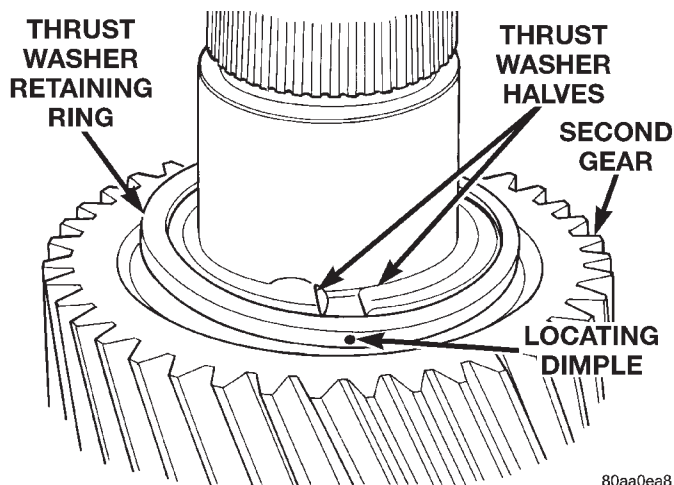

Fig. 71 Starting Retaining Ring Over Two-Piece Thrust Washer
(25) Start retaining ring around two-piece thrust washer (Fig. 71). Make sure that the locating dimple is between the thrust washer halves.